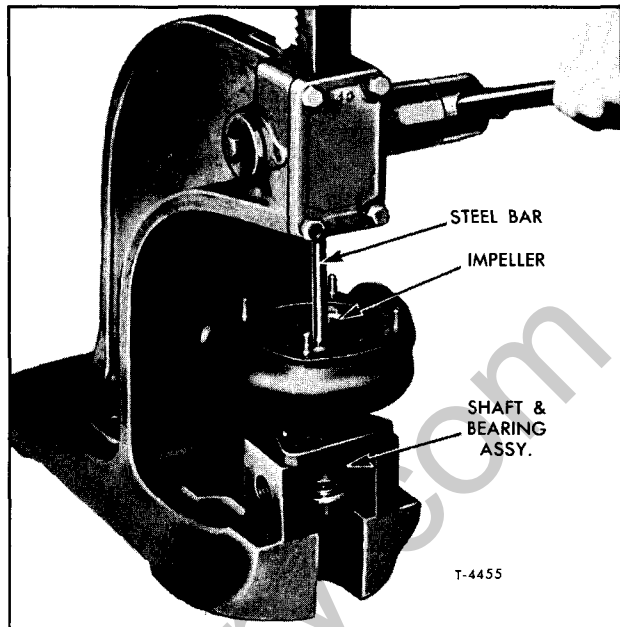

Figure 33—Pressing Water Pump Shaft from Impeller
2. Support the pump on its mounting flange in an arbor press as shown in figure 33. Place a short steel rod on the shaft and separate the shaft and bearing assembly from the impeller, seal, and pump body.